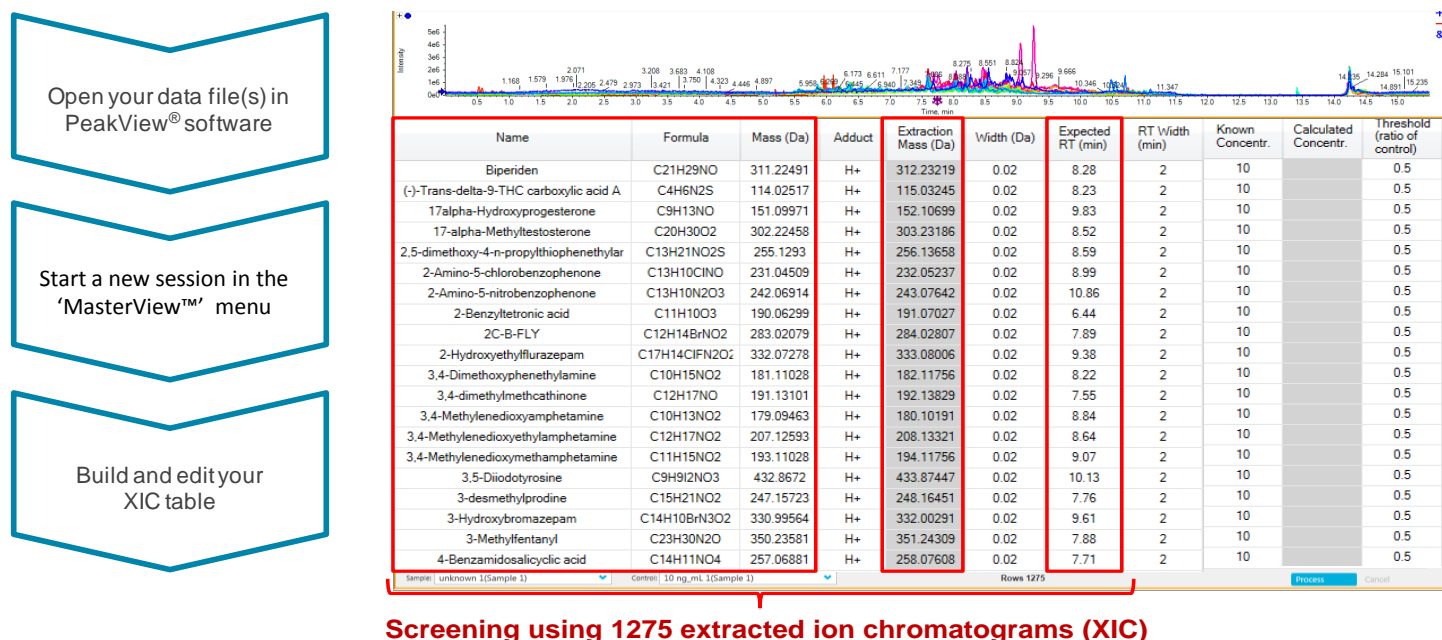

Figure 14. The MasterView™ Software with an XIC table loaded for targeted drug screening and identification
- The columns in the table, including compound name, formula, isotope, adduct, retention time (RT), width, and others, can be edited based on your methods and needs (Figure 14).